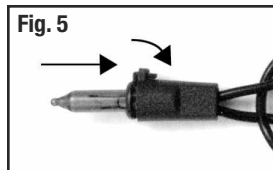

Fig. 5
proper position (Figure 5). Each branch must be shaped to a natural position by spreading out the left and right tips away from the center tip (See **Shaping Instructions** on page 4). Continue to lower branches on upper section(s) in the same manner making sure not to place undue pressure on the brackets.
- 3c. **TREES** do not require branch shaping. Branches should fall into place during assembly. If any branches remain upright, gently lower them into proper position (Figure 5).
4. **SHAPING:** Branches should fall into place during assembly. If any branches remain upright, gently lower them into proper position (Figure 5). See **IMPORTANT NOTE** below.
4. Carefully insert new bulb into socket and push down base lock until it snaps into place (Figure 5).